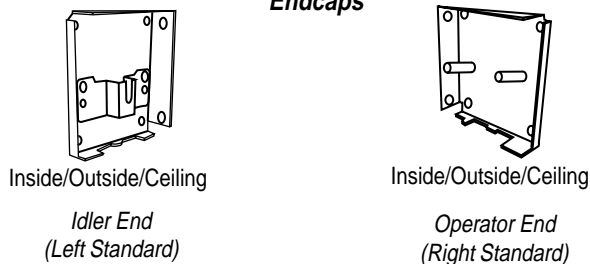

Figure 1
- ① Mark wall, jamb or ceiling for placement of mounting brackets.
- ② Drill small starter hole in mounting surface (if necessary).
- ③ Mount brackets using appropriate fasteners for surface (see Fig. 1 for bracket and endcap types).